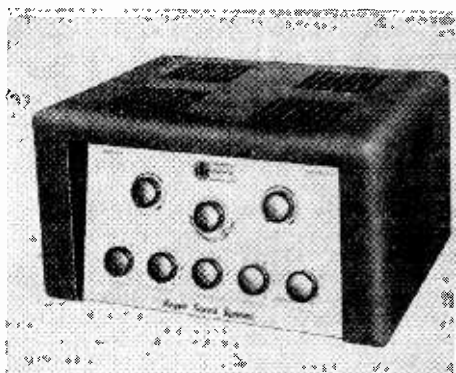
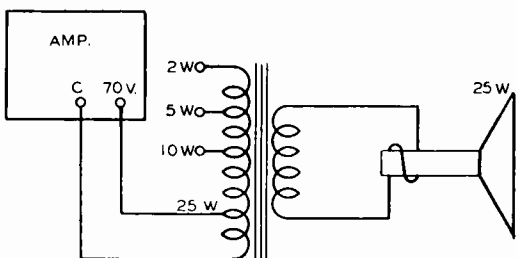

Fig. 1. A modern PA amplifier designed for both constant voltage and constant impedance distribution systems.
Fig. 6. Method of connecting a constant voltage matching transformer and speaker to the amplifier.
- C. Leakage in discharge capacitor (See C153 in Fig. 1, C73 in Fig. 3, C1 of Fig. 4, C80 and C182 of Fig. 5 and C79 of Fig. 6).
Let us see if we can isolate the defect any further by effect-to-cause reasoning. The vertical oscillator frequency is adjusted by the Hold control in the typical circuit shown in Fig. 1, the vertical Hold control is located in the grid circuit of the oscillator stage. If you are able to adjust the Hold control and bring the oscillator to the correct frequency, it indicates that the oscillator will work at the correct frequency. Oscillators of this type, however, are not stable, and if no synchronizing pulses are applied to the oscillator, the frequency will drift rapidly and the oscillator will not remain exactly in step with the vertical sweep oscillator in the TV transmitter.
In Fig. 1, the following resistors will affect, in varying degrees, the frequency at which the vertical oscillator operates: R171, R172, R174, R175, and R177. These resistors can be checked with an ohmmeter. Any resistor that measures beyond the rated tolerance should be replaced. Capacitor C152 and the output .005 mfd unit in the integrator network also affect the oscillator frequency. If the resistors prove good, check the capacitors either by checking them on an R-C Tester or by substitution. In the case of the .005 mfd a new printed integrator should be tried.
If the resistors and capacitors used in the oscillator circuit all check good, the trouble may be due to a defective blocking oscillator transformer. In Fig. 1 this is designated as T104.
These transformers are installed as shown in Fig. 6 which shows the connections to one of the 25 watt units. Notice that no calculations at all are necessary. The loudspeaker is merely connected to the proper impedance tap shown on the transformer and the line from the amplifier is connected to the appropriate wattage tap shown on the primary of the transformer.